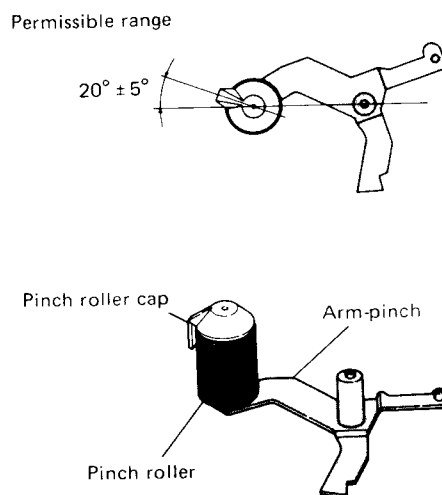

Fig. 3-11
- 1) Pull Pinch roller cap upward to remove. (Refer to Fig. 3-11).
- 2) Insert new Pinch roller. (Refer to Fig. 3-11).
- 3) Replace the pinch roller cap. Make sure that the direction of the cap is within the range shown in Fig. 3-11.